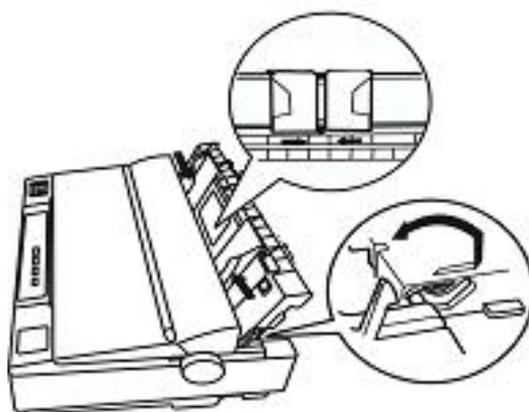

Figure 3-17 Raise paper guide
1. Lift up the paper guide as figure 3-17 shown, or it may lead to paper jam when printing.